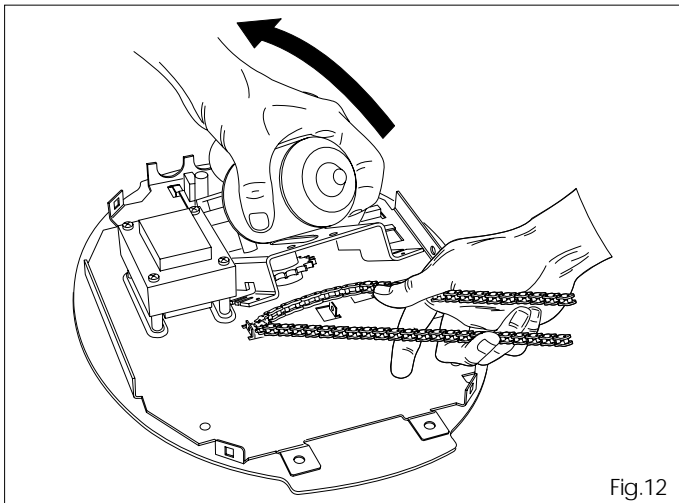

Fig.12
5.7 Lift up the motor unit, taking care not to damage the control board, couple the chain to the pinion gear (fig.12).